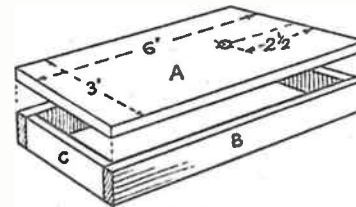

Fig. 1
The first section to make will be the ground platforms, and in Fig. 1 we show how simple they are to construct. There is a main top cut square-cornered, to which is attached an open frame formed from two sides (B), each 6 ins. by 3 in. Glue these parts together and drive in a few fine nails to stiffen the job. Next make the piers, each of which has two pieces shaped to the outline shown as (D) in Fig. 2.